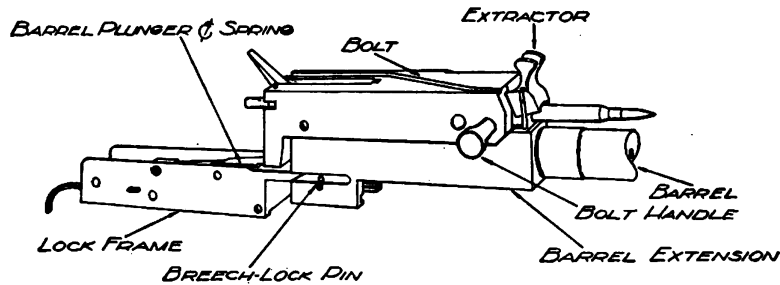

FIGURE 34.—Barrel, barrel extension, bolt, and lock frame in firing position.
Q. Point out and state the uses of the important parts shown in figure 34. A. See figure 34.